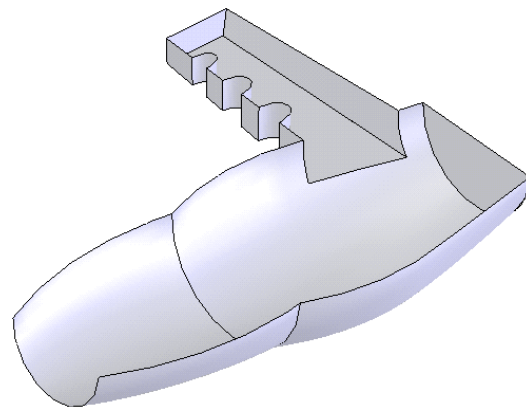

Figure 15-132 Model after trimming the surfaces
- Choose the **OK** button from the **Trim Surface PropertyManager**. Figure 15-132 shows the resultant trimmed surface.